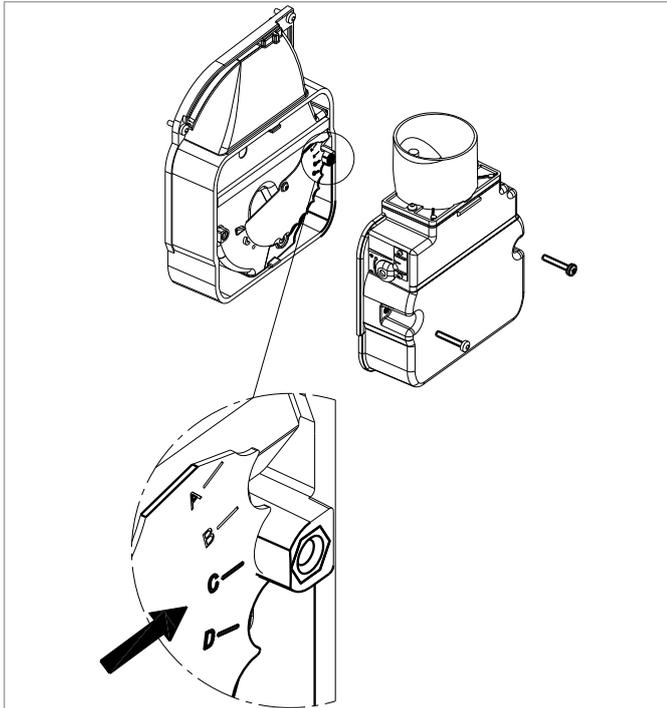

Figure 10-8: Air adjuster disc
It is essential, for correct operation of the burner, that this internal air adjuster disc is correctly set. Refer to Figure 10-8.
4. On 15-26 models, the air adjuster disc is supplied fitted on the fan housing. For 26-46 models, the disc must be fitted on the fan housing in order to downrate the output to either 26kW or 31kW. Refer to Figure 10-8.